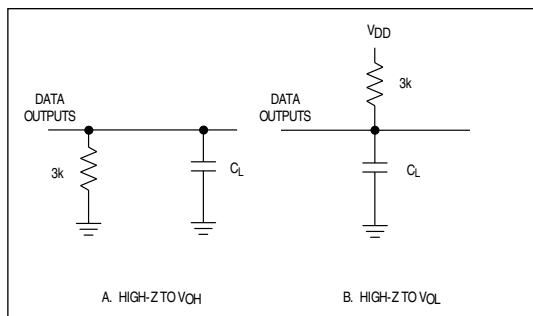

Figure 1. Load Circuits for Data-Access Time Test
**Note 7:** See Figure 1 for load circuit. Parameter defined as the time required for the output to cross 0.66V or 2.0V.